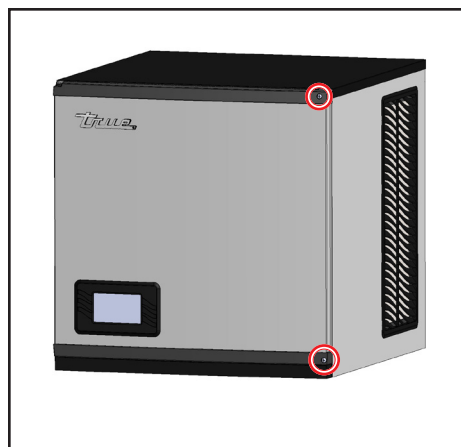

Fig. 1. Front panel screw locations.
2. Open the front panel. See fig. 1.